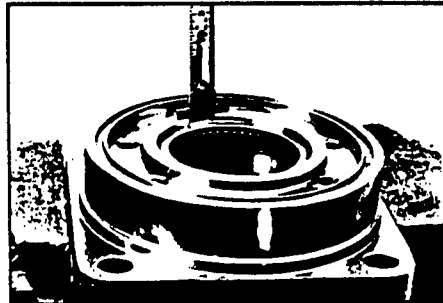

Figure 29
NOTE: The depth or location of bearing/bushing (13) in relation to the housing wear plate surface and the depth or location of bearing/bushing (19) in relation to the beginning of bearing/bushing counter bore should be measured and noted before removing the bearings/bushings. This will facilitate the correct reassembly of new bearings/bushings. SEE FIGURE 29.